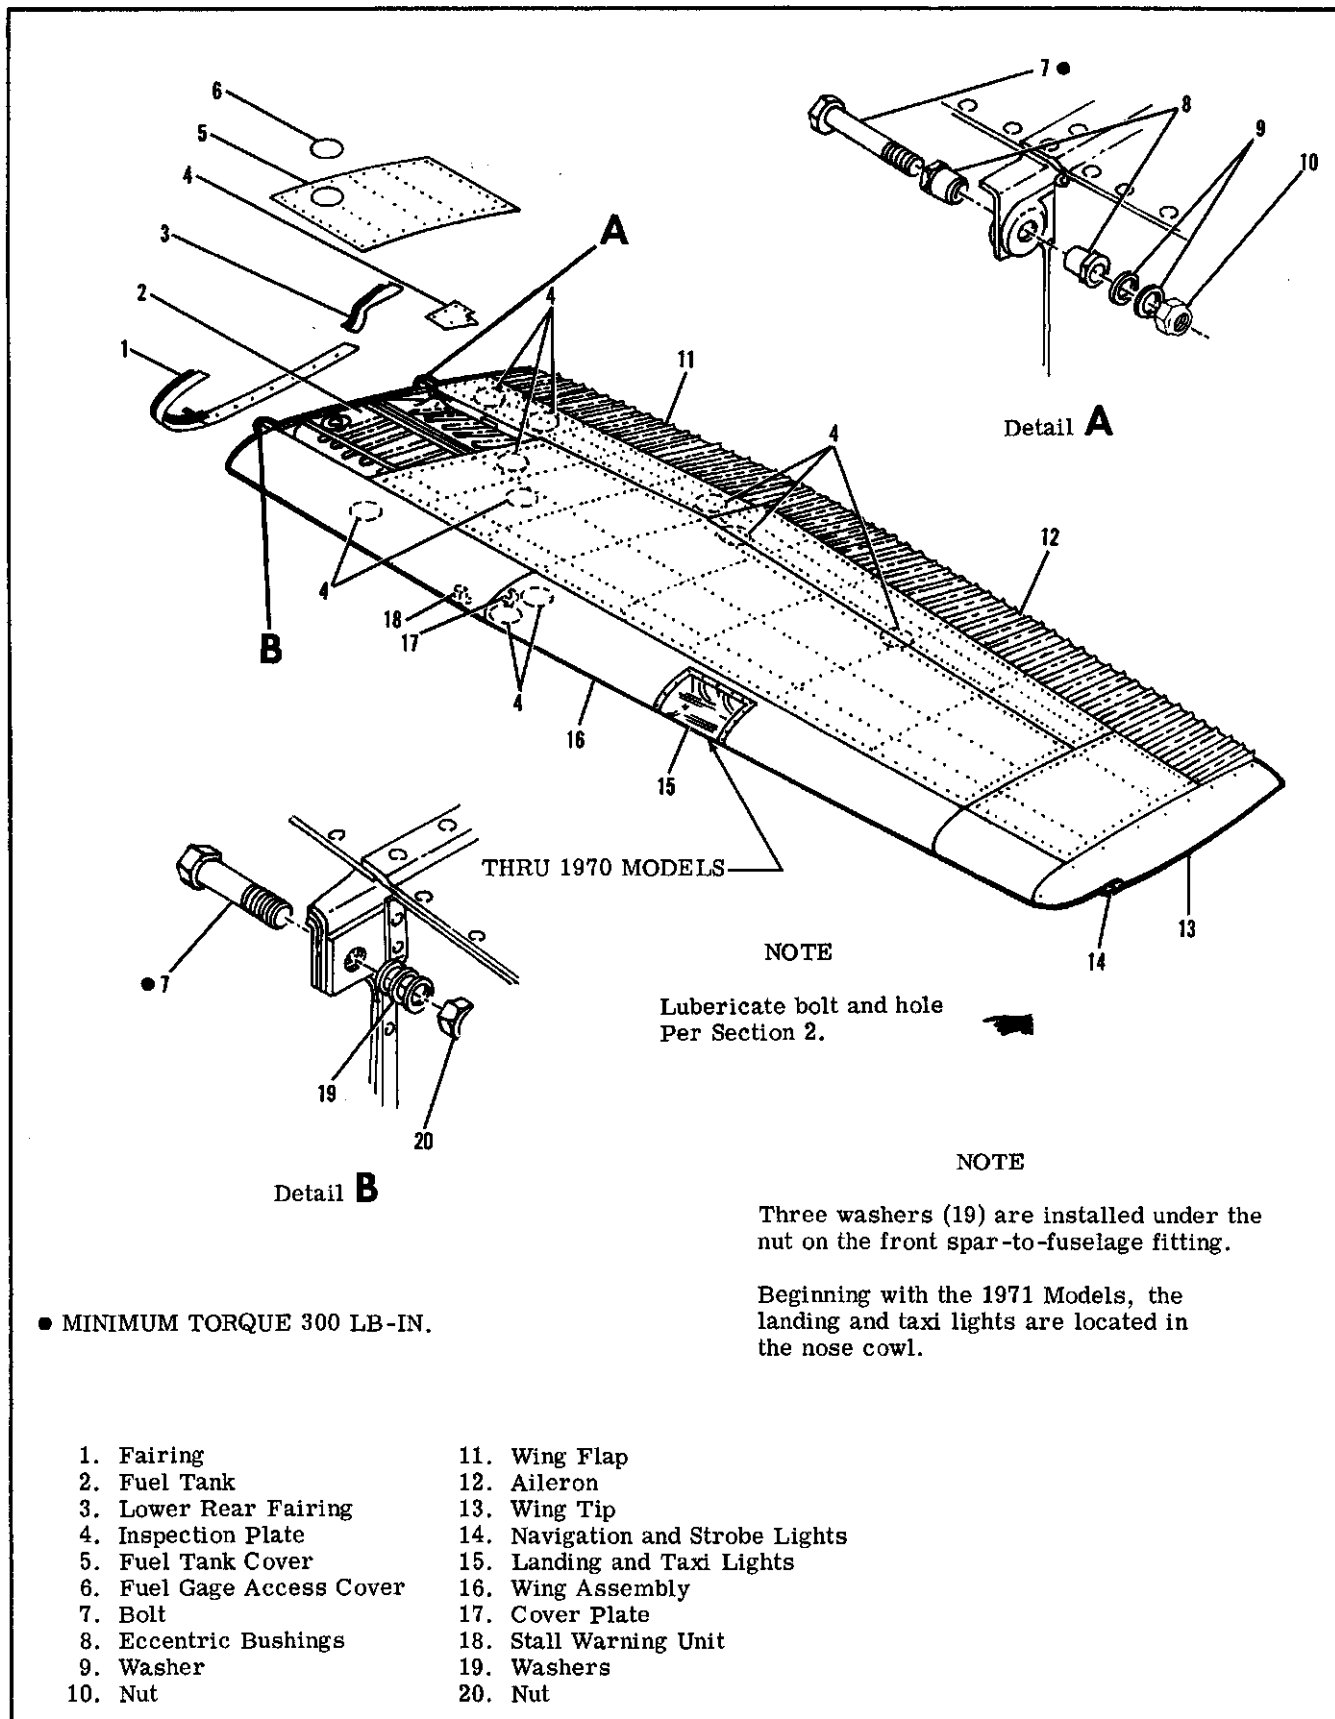

Figure 4-1. Wing Installation
4-2. WINGS. (See figure 4-1.)
g. Mark position of wing attachment eccentric bushings (refer to figure 4-1); these bushings are used to rig out "wing heaviness."
4-7. ADJUSTMENT (CORRECTING "WING-HEAVY" CONDITION.) (Refer to figure 4-1.) If considerable control wheel pressure is required to keep the wings level in normal flight, a wing-heavy condition exists.